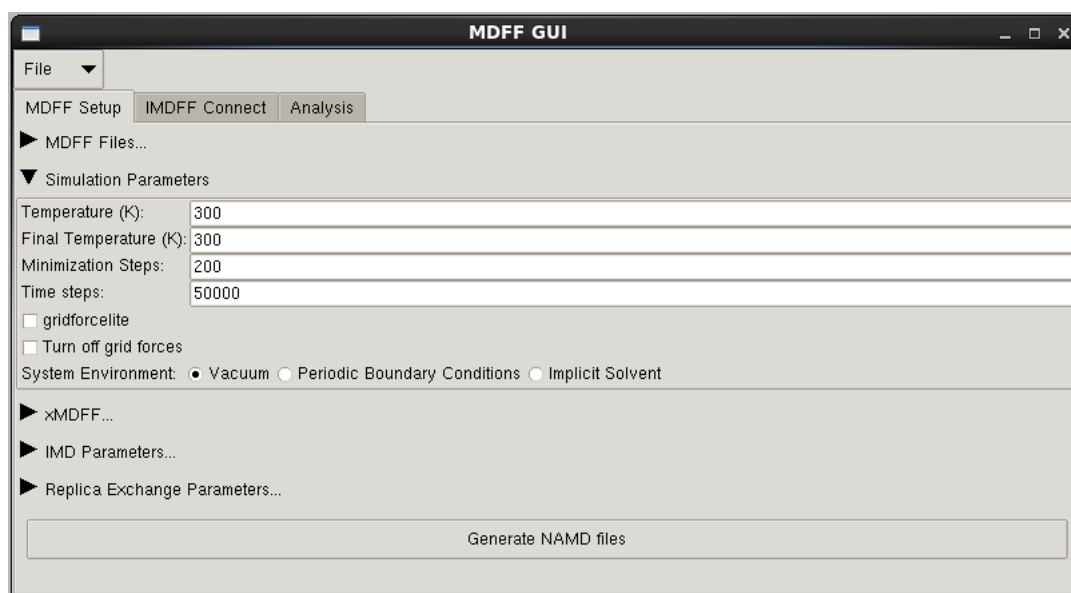

Figure 17: Simulation Parameters subsection of the MDFF GUI.
- 5 Next, you should close the 'MDFF Files' subsection of the GUI and open the 'Simulation Parameters' subsection, as seen in Fig. 17. This is the location of basic NAMD simulation parameters, such as temperature and time steps. All of the default values can remain for this tutorial. You may want to check the box labeled 'gridforcelite', which will tell NAMD to use a faster, but slightly less accurate, interpolation for calculating the forces derived from the density map. In this section you can also select the environment of your MDFF simulation, e.g. vacuum, explicit solvent with periodic boundary conditions, or a generalized Born implicit solvent. Vacuum should be used for this tutorial.